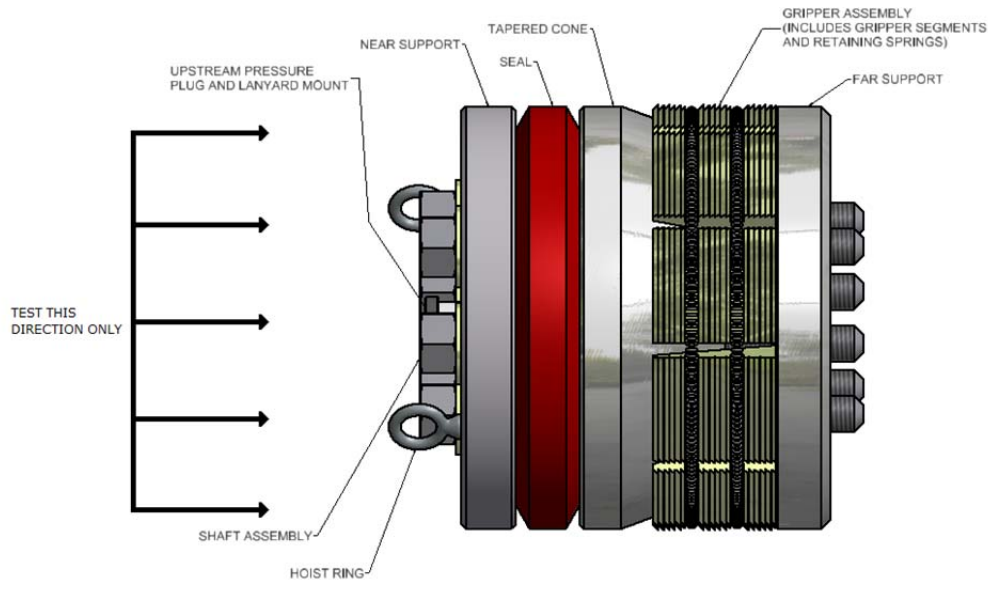

Figure 1: 8" - 12" (DN200 - DN300) GripTight Reverse Pressure Test Plug
- ⚠ Always ensure that GripTight Reverse Pressure Test Plugs are assembled as shown in Figure 1.
Component parts of the plug must be removed in the following order, reference Figure 1 :